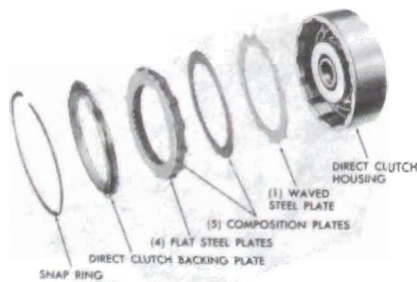

Figure 76-684
5. Inspect the drive and driven clutch plates for signs of wear or burning. See Figure 76-684.